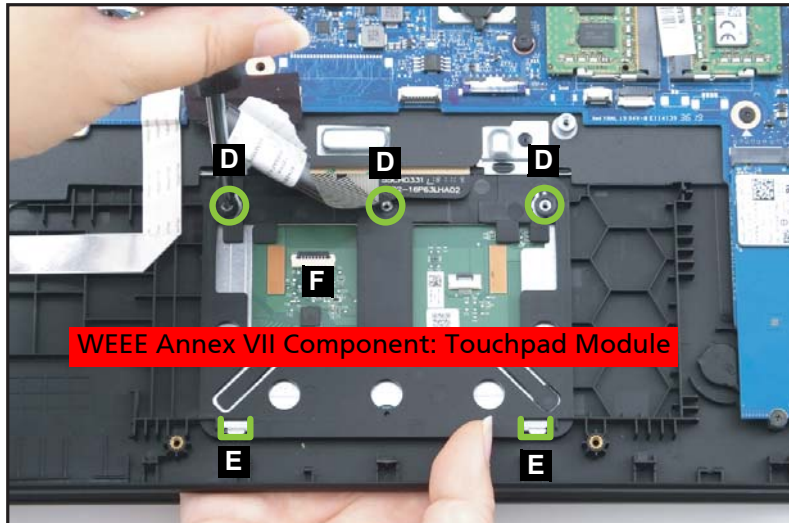

Figure 1-25. Touchpad Board Removal
5. Using the screwdriver, push the guide pins (D) firmly to release them from the top assembly (Figure 1-25).
6. With one hand is placed underneath the touchpad module, push the touchpad module slightly to disengage it from the bottom latches (E), and then remove the touchpad module (F) from the top assembly (Figure 1-25).